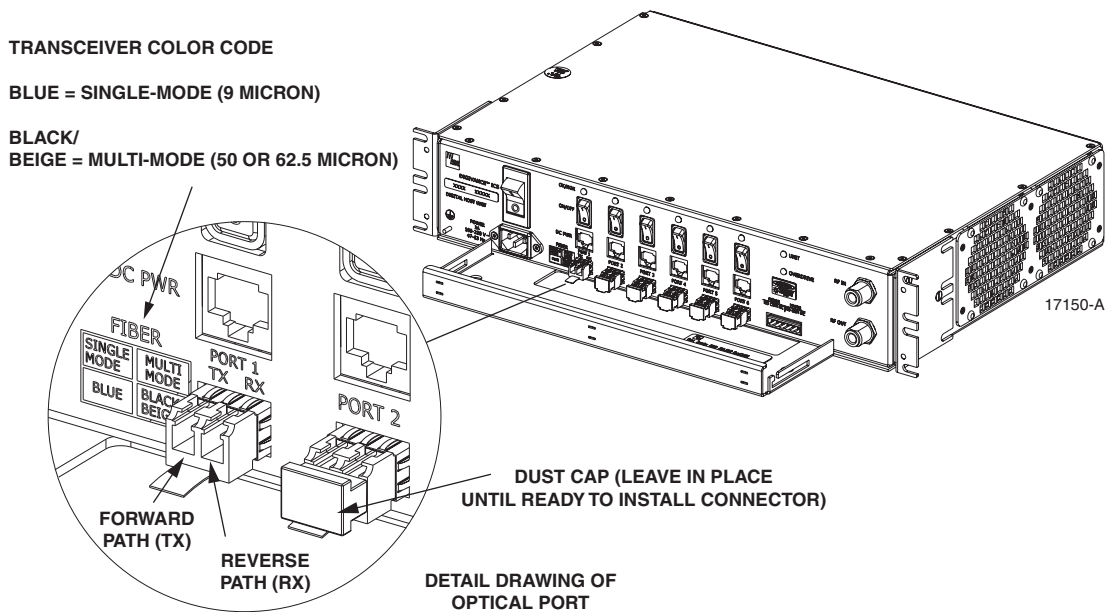

Figure 20. Optical Transceiver Designations
- ▶ **Note:** When viewing any **Port 1-6** optical transceiver from the front, the forward path port is on the left and the reverse path port is on the right as shown in Figure 20. In addition, single-mode transceivers are colored blue and multi-mode transceivers are colored black or beige. Both single- and multi-mode transceivers may be mounted on the same DHU.